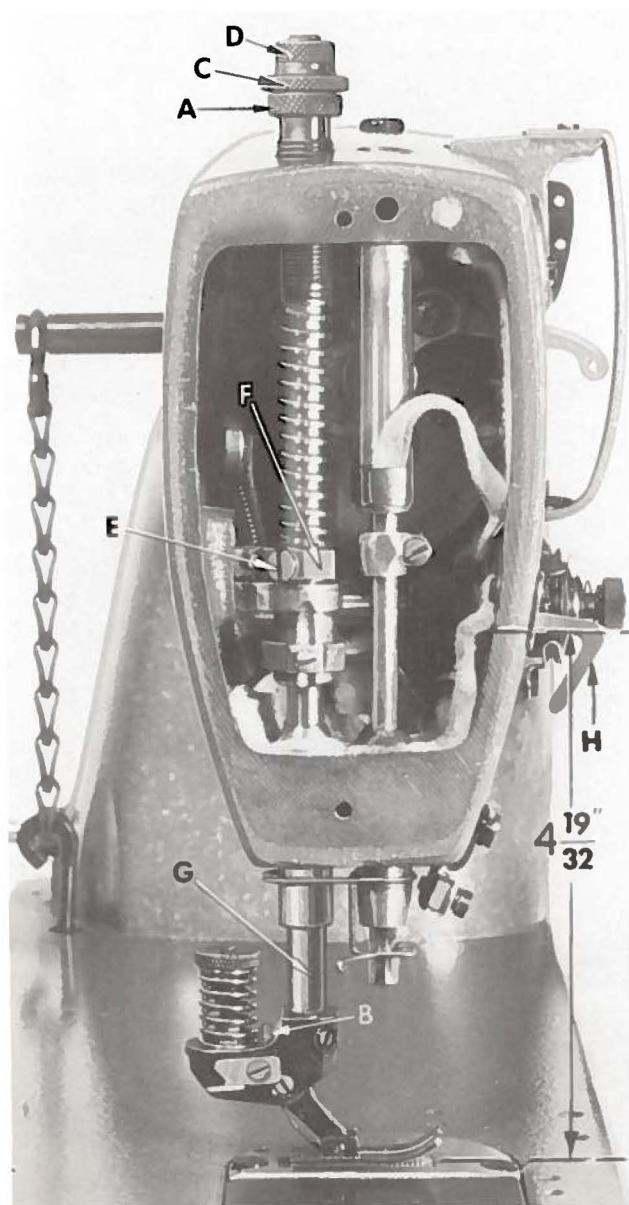
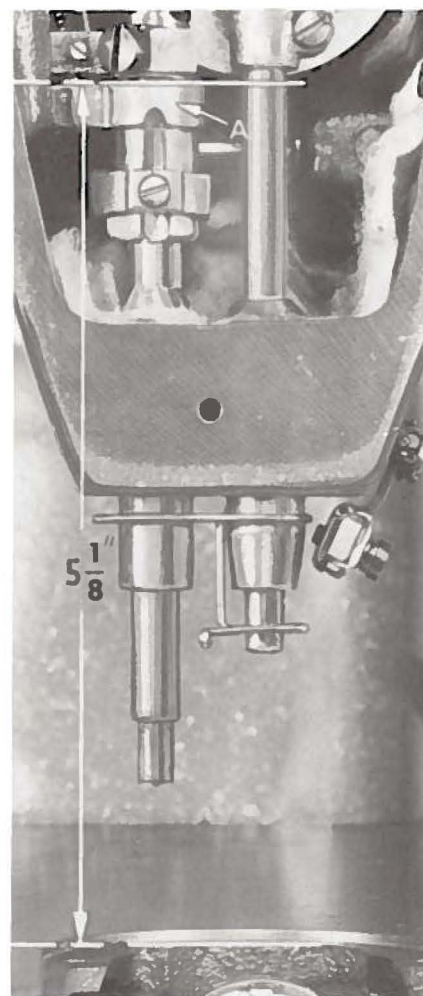

Fig. 16A
Fig. 16B
Adjust the presser spring regulator (A, Fig. 16A) so that approximately three (3) threads are visible above the bed casting.
Back off stop screw (B, Fig. 16A) in feeding presser foot. With the presser foot resting flat on the throat plate and feed dog down, adjust stop nut (C) until the adjusting lines on the presser foot bottom, line up with the centerline of the needle. Tighten lock nut (D).
Loosen screw (E, Fig. 16A) in presser bar guide (F), while holding down on presser bar (G) depress presser foot lifter lever and retighten screw (E). Release lifter lever.
Set the presser bar connection (A, Fig. 16B) so its top surface is $5 \frac{1}{8}$ inches above the throat plate seat (See Fig. 16B). This is accomplished by tipping the machine back against the rest pin, loosening the locknut and relocating the stop screw in the lifter lever bell crank (61468 F). By turning the stop screw to the right or left, the proper setting for the presser bar connection is accomplished. Retighten the locknut to lock the stop screw in place. Release pressure on presser spring as required to reset the presser bar guide (F, Fig. 16A) allowing a $1/16$ inch space between the guide and presser bar connection, be sure the presser foot is in alignment with the needle before tightening screw (E).
Set needle thread pull-up bracket (H, Fig. 16A) $4 \frac{19}{32}$ inches from bottom (underside) of bracket to top of cloth plate (See Fig. 16A).